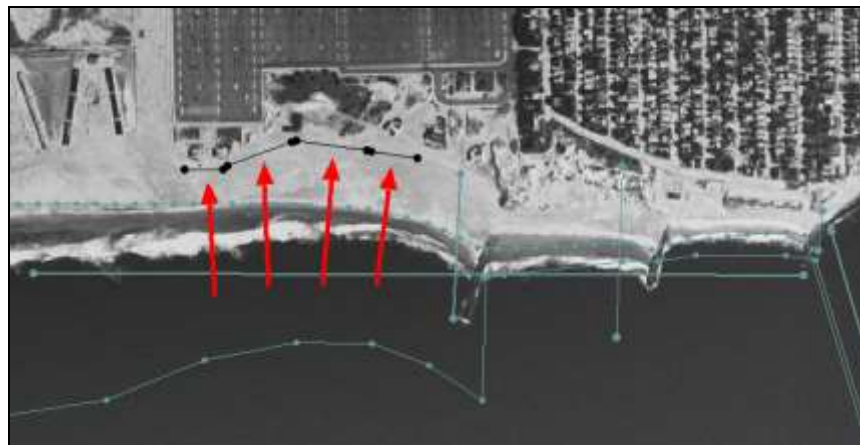

Figure 5 Location of the seawall arcs
2. Using the **Select Feature Arc**  tool, select all four arcs (Figure 5) by clicking on each while holding down the *Shift* key.